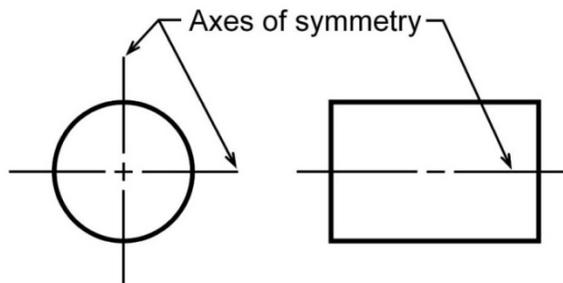
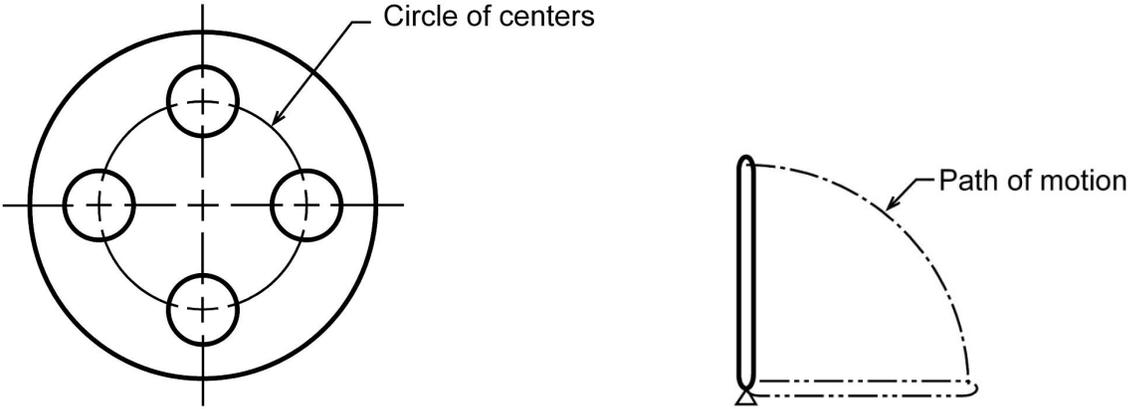
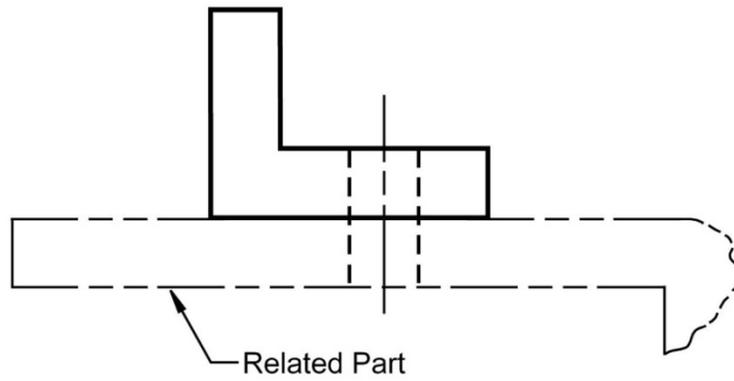
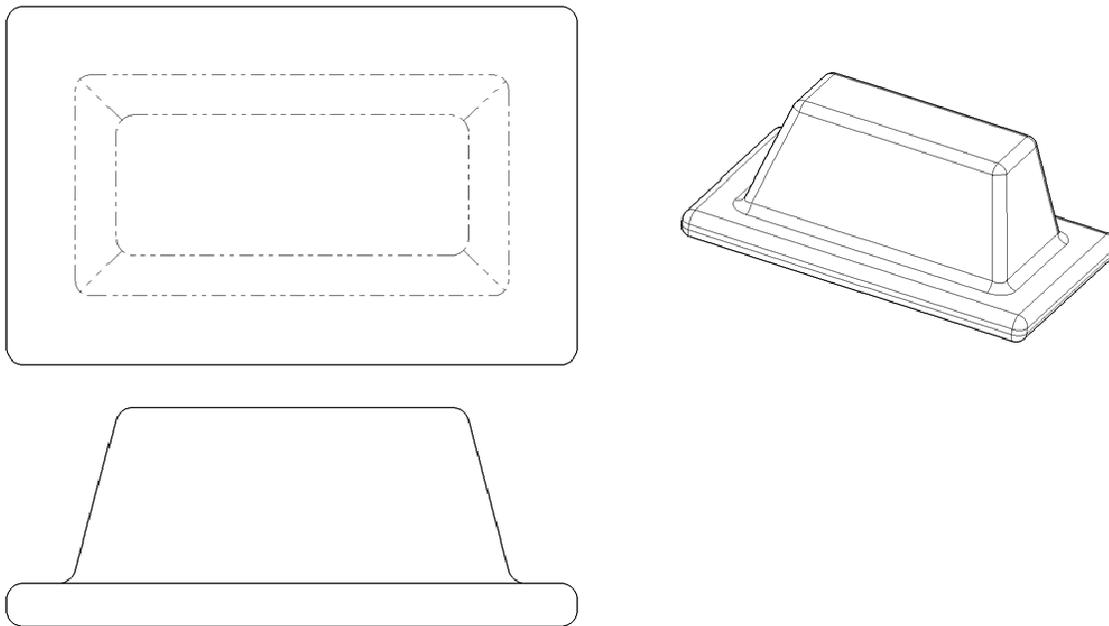

Figure 1-7: Axes of symmetry
Figure 1-8: Center line uses
Figure 1-12: Related part.
Figure 1-14: Phantom lines used to indicate a change in surface direction
Center lines represent axes of symmetry and are important for interpreting cylindrical shapes (Figure 1-7). They are also used to indicate circle of centers and paths of motion as shown in Figure 1-8.
- Rule 1. Center lines should start and end with long dashes (see Figure 1-8).
Phantom lines are used to indicate alternate positions of moving parts (see Figure 1-8). They may also be used to indicate adjacent positions of related parts and repeated detail as shown in Figures 1-12 and 1-13. They are also used to show fillets and rounds in the view that does not show the radius. In this case, the phantom lines are used to show a change in surface direction (see Figure 1-14).